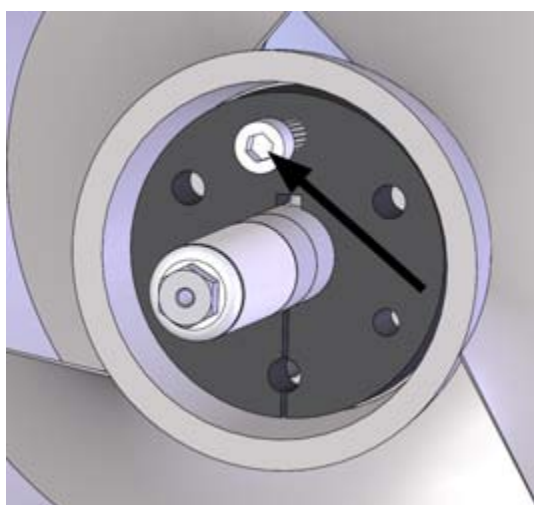

Figure 40. Removing the impeller
2. Insert one of the screws into the threaded hole (figure 40) and tighten until the cone comes loose.